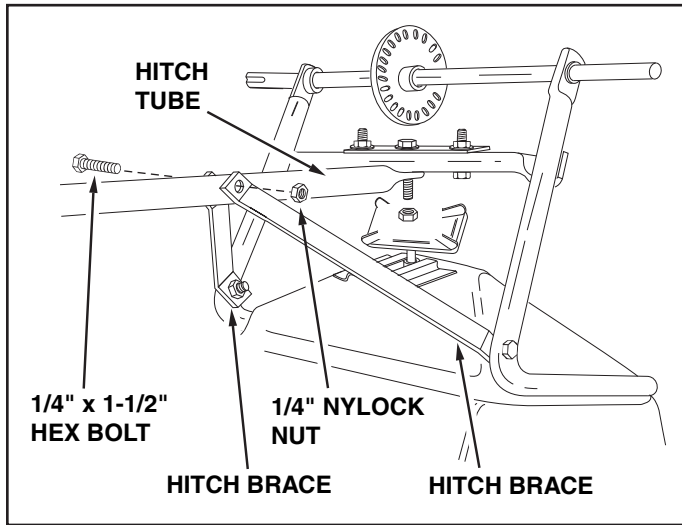

FIGURE 3
5. Assemble the two hitch braces to the hitch tube using a 1/4" x 1-1/2" hex bolt and a 1/4" nylock nut. See figure 3. **Do not tighten at this time.**